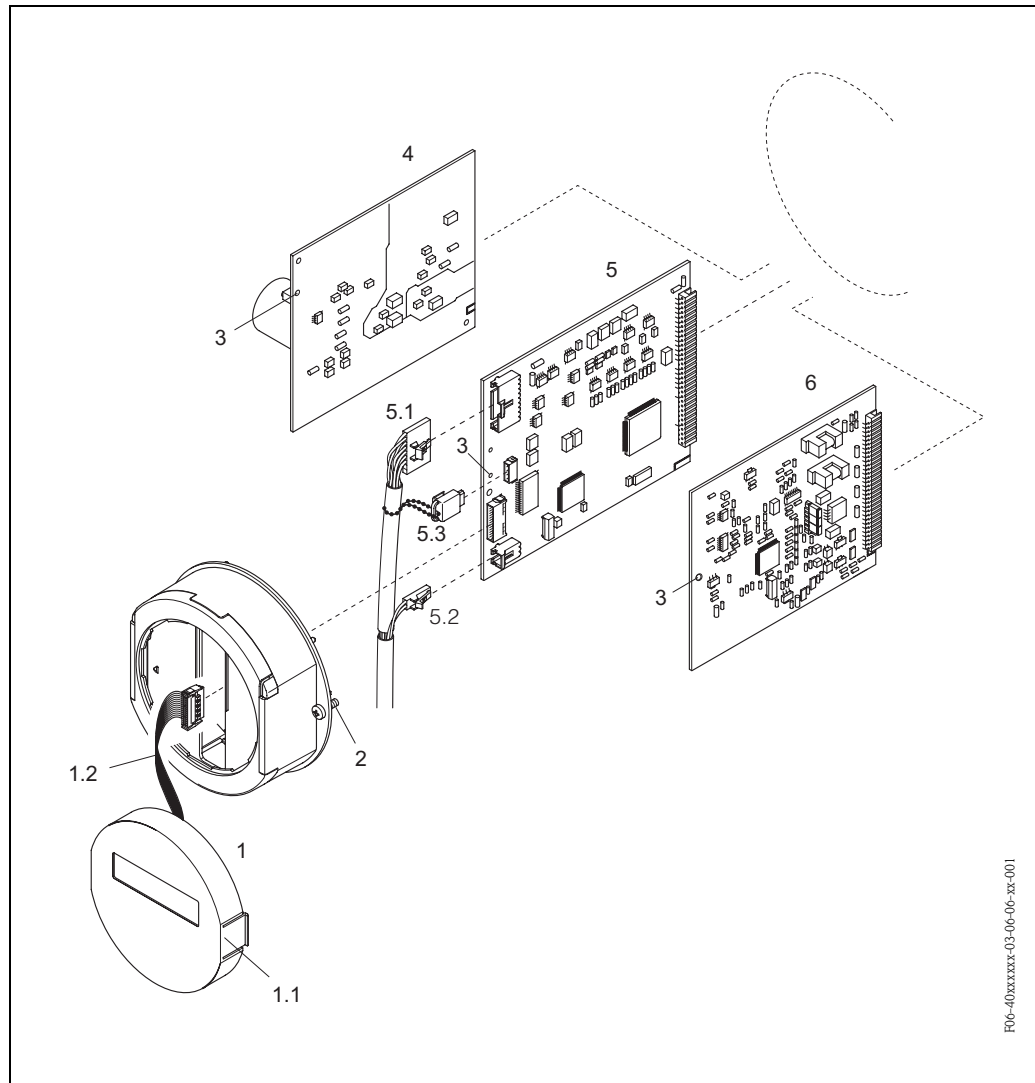

Fig. 20: removing and installing printed circuit boards
1. Unscrew cover of the electronics compartment from the transmitter housing (see Fig. 20).
2. Remove the local display (1) as follows:
3. Remove the screws and remove the cover (3) from the electronics compartment.